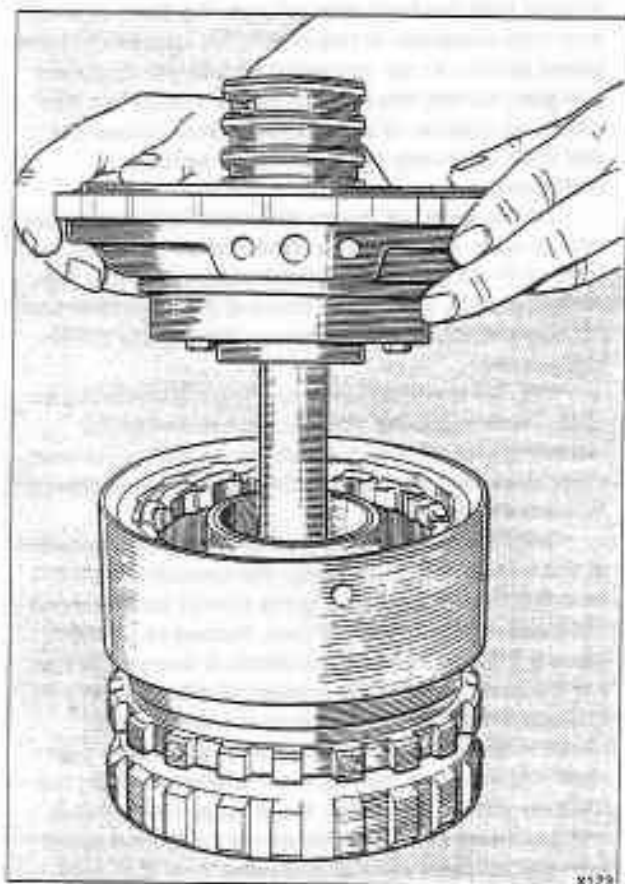

Fig. T20-1 Removing the centre support assembly
17. Remove the centre support assembly from the reaction carrier (see fig. T20-1).